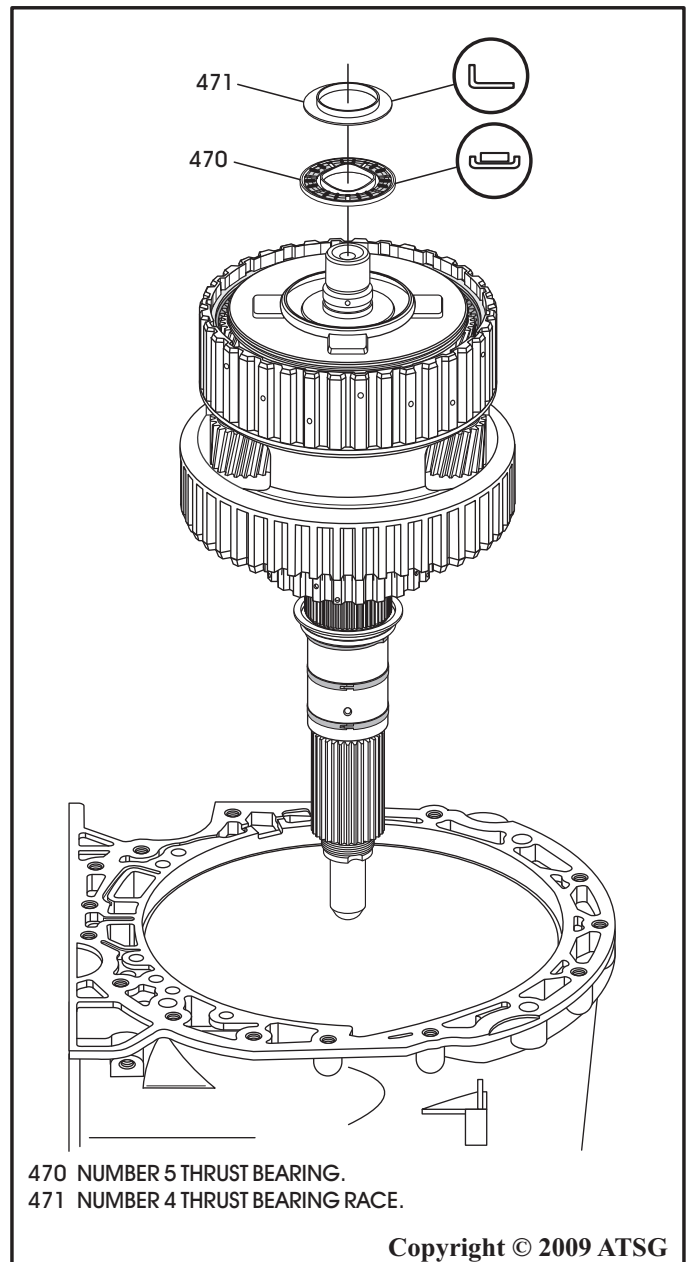

Figure 52
30. Remove the complete gear train assembly from the case, as shown in Figure 52, and set aside for component rebuild.